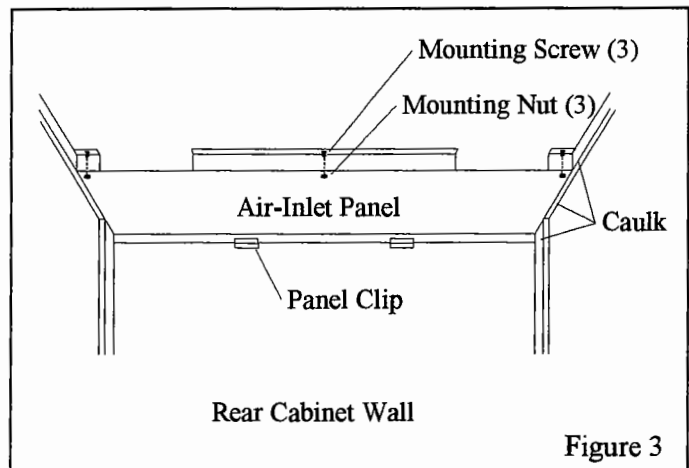

Figure 3
3.3 From the inside of the cabinet, remove the three air inlet panel mounting nuts, as shown in Figure 3.